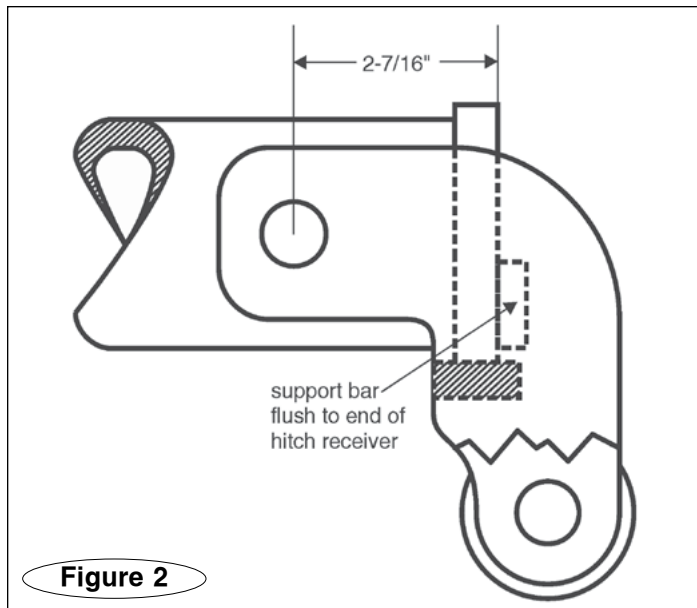

Figure 2
2. **IMPORTANT – check the fit.** The Rollaway is designed for a standard hitch receiver with a distance of 2-7/16" between the center of the hitch pin hole and the end of the hitch receiver, as shown in Figure 2.
At this distance, the support bar (Figure 2) fits flush to the end of the hitch receiver. The support bar will hold the Rollaway tightly in place and level to the hitch receiver.